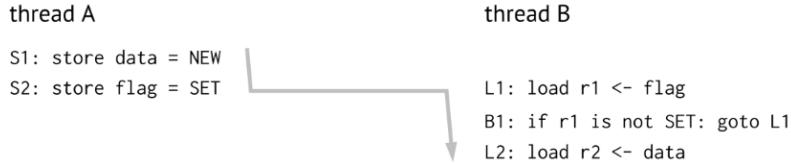

Figure 51: Flags between threads
To order accesses to shared memory, we can use flags. Consider the code in the two threads in Figure 51. Thread B cannot continue until Thread A has set the flag, which will only occur after the data has been set to the updated value.
1. **Load-to-load ordering** – If we swap two loads, then we will lose sequential consistency. For instance, consider the thread B in Figure 51, the load of the flag must happen before the load of the data.